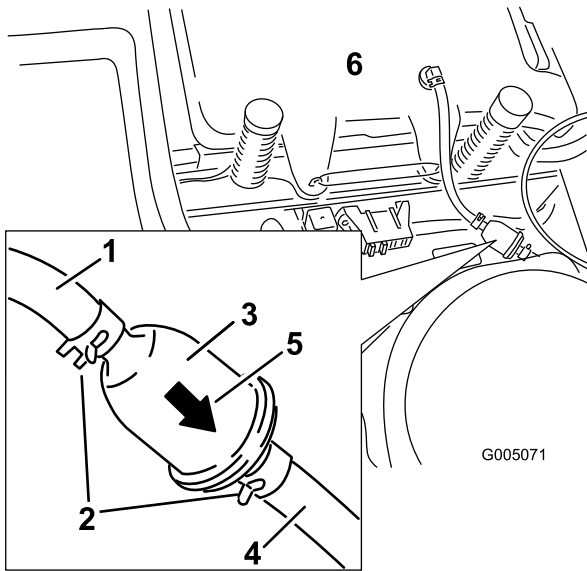

Figure 32
4. Squeeze the ends of the hose clamps together and slide them away from the filter (Figure 32).
6. Install a new filter with the flow direction arrow coming from the fuel tank and pointing to the engine. Move the hose clamps close to the filter (Figure 32) to secure it in place.